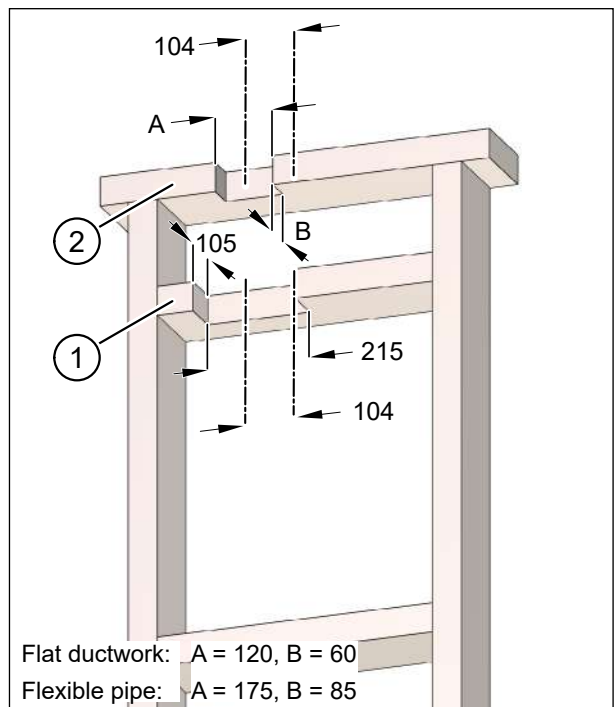

Fig. 12: Sawing channels for flat ductwork or flexible pipes, dimensions in millimetres
- ▶ Saw a channel 215 mm wide and 105 mm deep in the upper batten (item 1 in Fig. 12) for the ductwork connection adapter on the extract air side.
- ▶ Saw a channel in the ceiling joist (item 2 in Fig. 12) for the extract air duct.
- 120 mm wide (item A in Fig. 12)
- 60 mm deep (item B in Fig. 12)
- 175 mm wide (item A in Fig. 12)
- 85 mm deep (item B in Fig. 12)